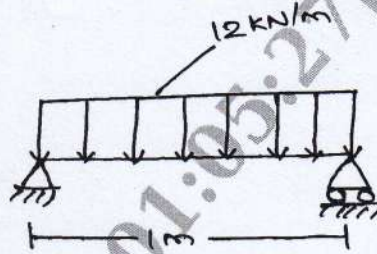

Fig Q9(a)
- 9 a. Fig Q9(a) shown a simply supported beam subjected to a uniformly distributed load, obtain the maximum deflection. Take $E = 200\text{GPa}$ and $I = 2 \times 10^6 \text{mm}^4$.